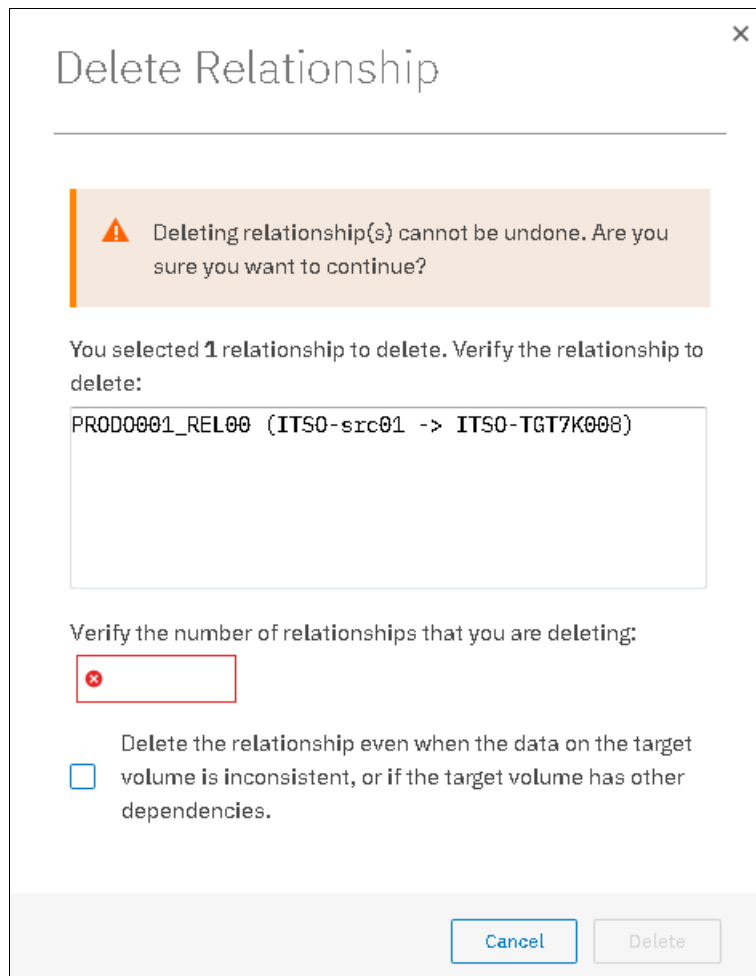

Figure 10-124 Delete remote copy relationship
3. The Delete Relationship window opens (see Figure 10-124). In the “Verify the number of relationships that you are deleting” field, enter the number of volumes that you want to remove. This verification was added to help to avoid deleting the wrong relationships. Click **Delete**.